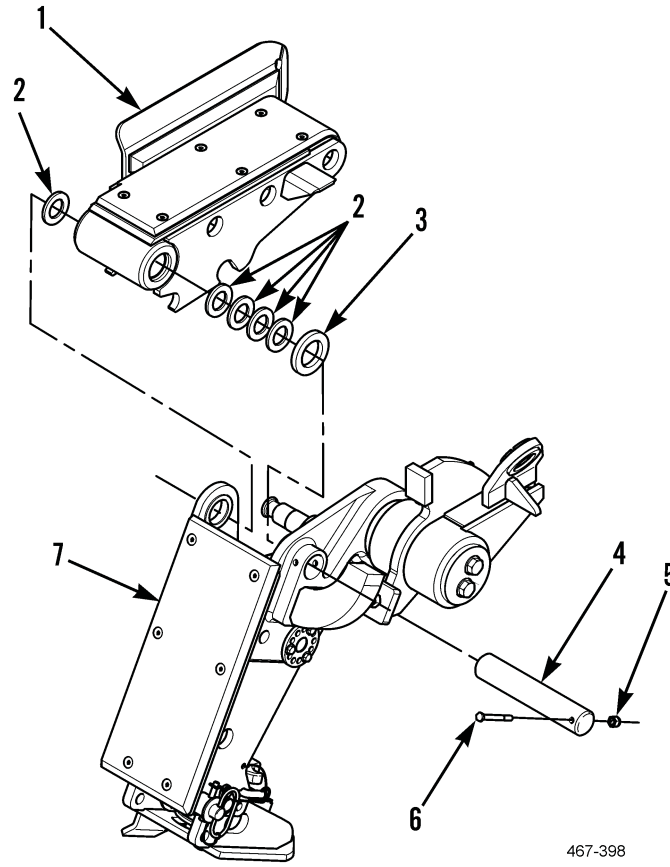

Figure 2. Front Slider Bed.
1. Attach sling and lifting device to front slider bed (Figure 2, Item 1).
2. Use lifting device to install front slider bed (Figure 2, Item 1) on rear slider bed (Figure 2, Item 7).
3. Apply GAA to pin (Figure 2, Item 4).
4. Install spacer (Figure 2, Item 3), shims (Figure 2, Item 2), and pin (Figure 2, Item 4) in front slider bed (Figure 2, Item 1).
5. Install bolt (Figure 2, Item 6) and new locknut (Figure 2, Item 5) in rear slider bed (Figure 2, Item 7).